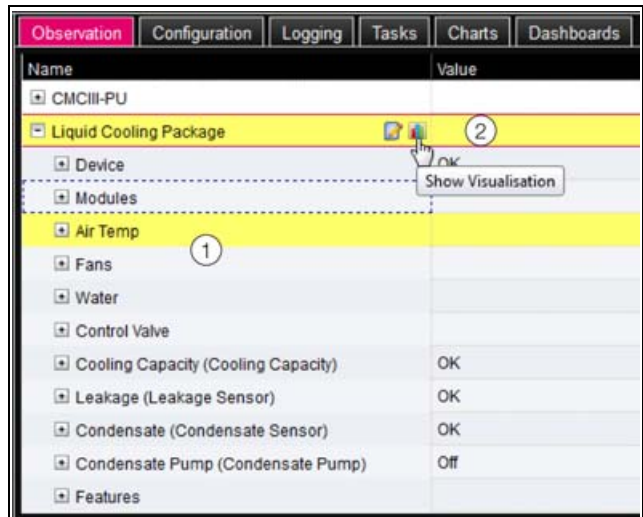

Fig. 103: Tree structure
If, after selecting the "Liquid Cooling Package" level, the subordinate entries "Device", "Air", "Water" etc. are displayed (fig. 103), you can switch to the graphical representation as follows:
- Press the coloured "Graphics" symbol after the "Liquid Cooling Package" entry in the form of a stylised diagram (fig. 103, item 2).
The display switches to the tree view (fig. 103) and the individual settings for the Liquid Cooling Package may be selected.